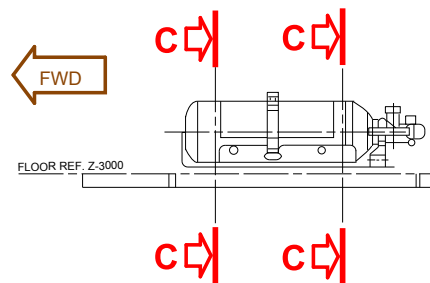
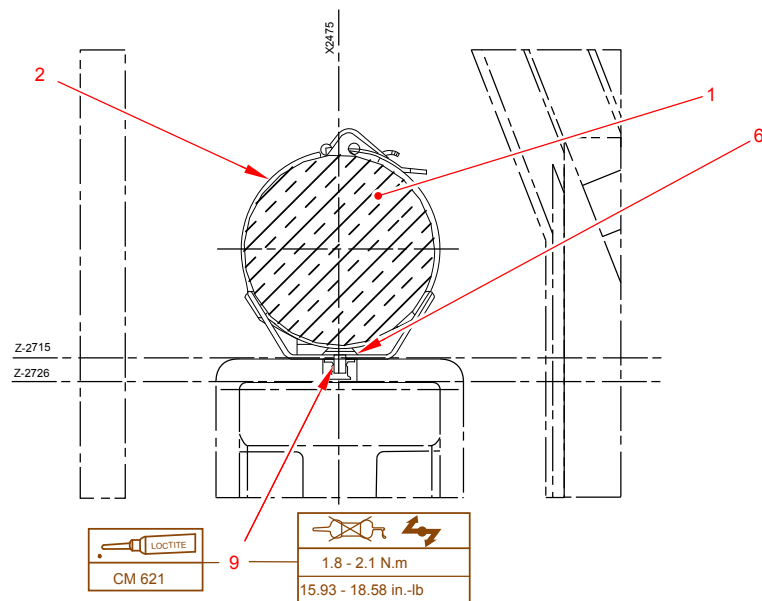
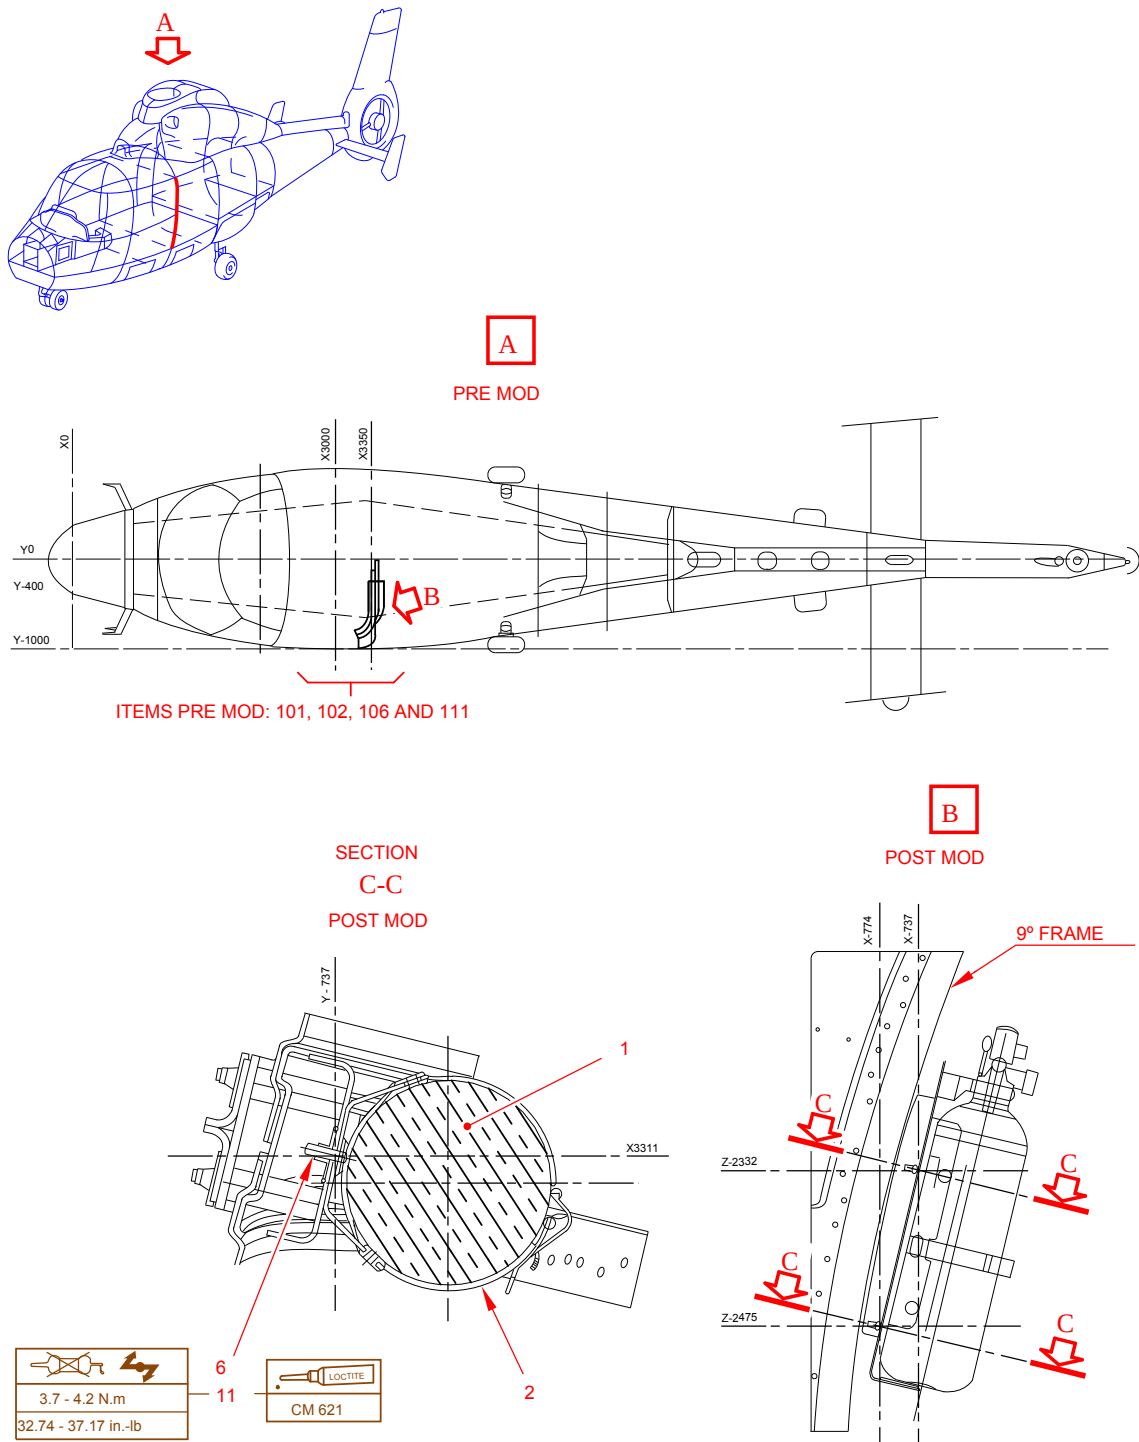

Figure 2 - Position 7 and 8.
Figure 4 - Position 12.
Figure 5 - Position 13.
- 4.1. Check the figures to identify which one corresponds to the position of the extinguisher, refer to \(Figure 1\), \(Figure 2\), \(Figure 3\), \(Figure 4\), \(Figure 5\)
4.3.2. For positions 7 and 8 , refer to \(Figure 2\)
- Install the HAND FIRE EXTINGUISHER BRACKET P3APP003020J (2) with:
- SIX-LOBE RECESS SCREW ECS2365TK05S16X (11).
- WASHER 23116TK050X (6).
- SPACER 365V87-0544-24 (4).
- Apply torque to SIX-LOBE RECESS SCREW ECS2365TK05S16X in accordance with \(Figure 2\) .
4.3.4. **For position 12** , refer to \(Figure 4\)
- SIX-LOBE RECESS SCREW ECS2365TK05S10X (9).
- Apply torque to SIX-LOBE RECESS SCREW ECS2365TK05S10X in accordance with \(Figure 4\) .
4.3.5. For position 13 , refer to \(Figure 5\)
- Install the HAND FIRE EXTINGUISHER BRACKET P3APP003020J (1) \(Figure 5\) with:
- Apply torque in accordance with \(Figure 5\) .